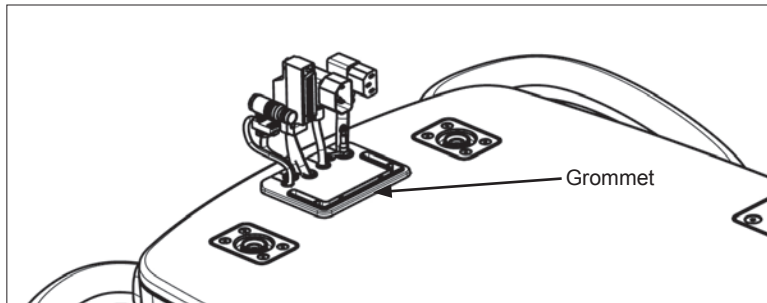

Figure 7-3. Grommet/Cabling from Base Console (shown with Table Top Installed)
8. Remove cable grommet from top of base console and pull cabling into position to be connected to table top (see Figure 7-3).